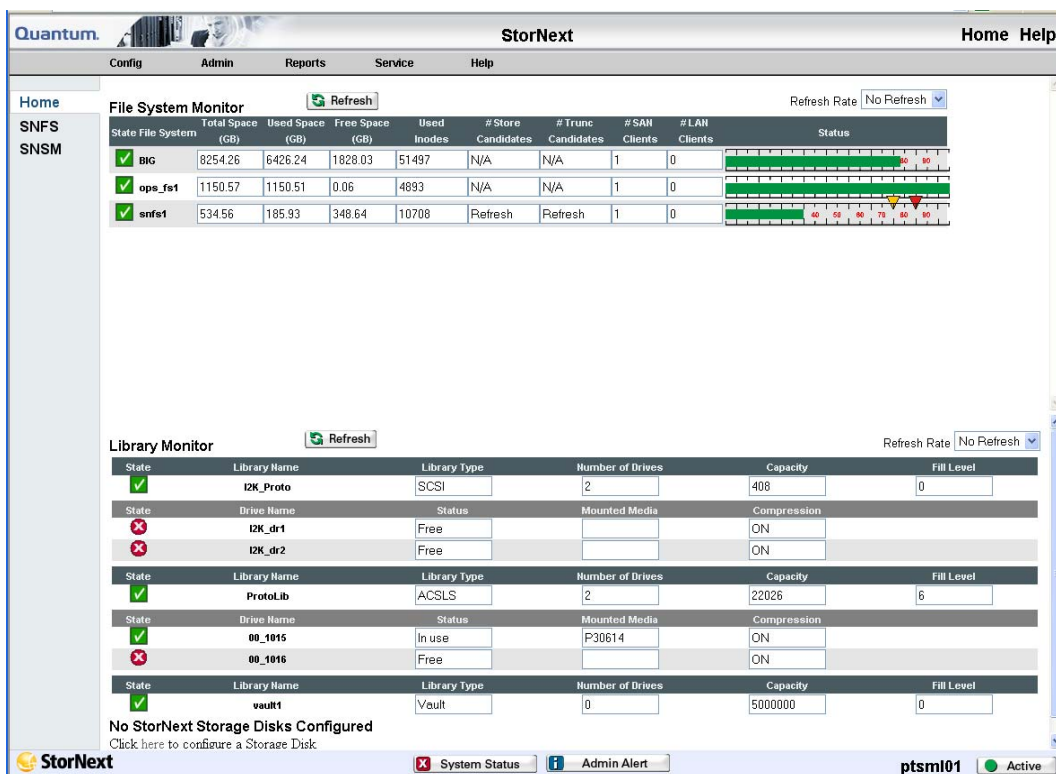

Figure 14.4-1. StorNext GUI Home Page
- The **StorNext** GUI Home page will be displayed (Figure 14.4-1).